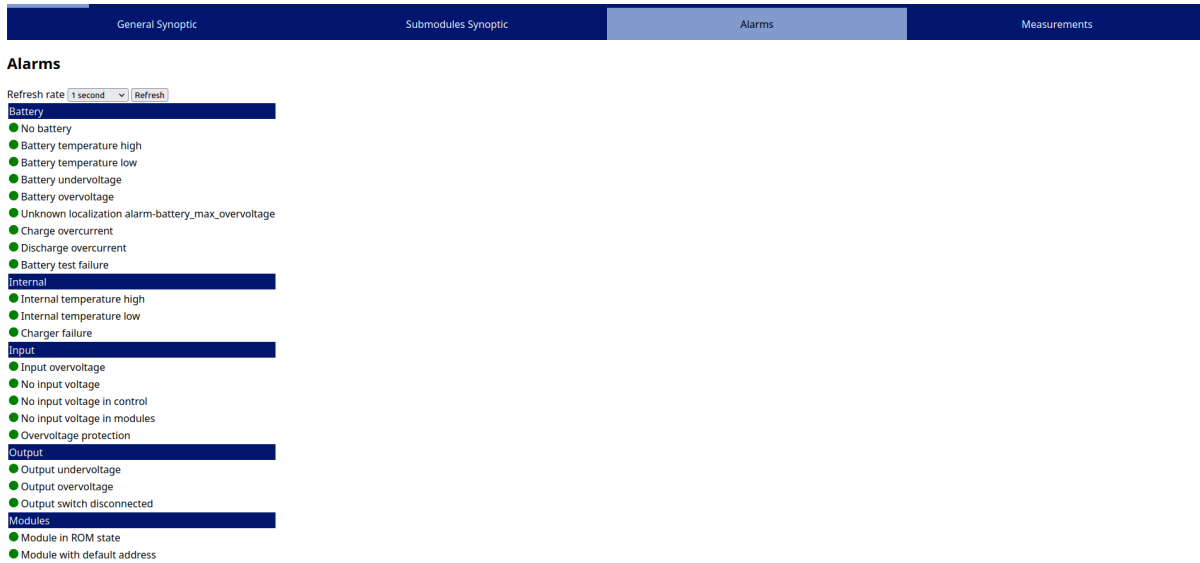

Figure 37 - Web - Overview - Alarms
- Alarms (Figure 37): Displays the current status of the equipment alarms. Green when OK and red when the alarm is active.